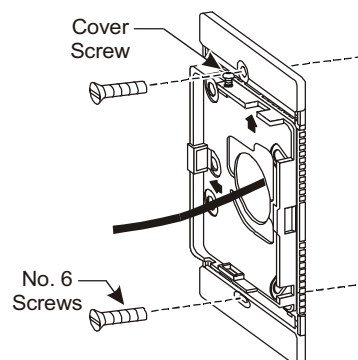

Figure 1: Wallbox Mounting
3. Fasten the base to the wallbox with the No. 6 screws provided. (See Figure 1.)